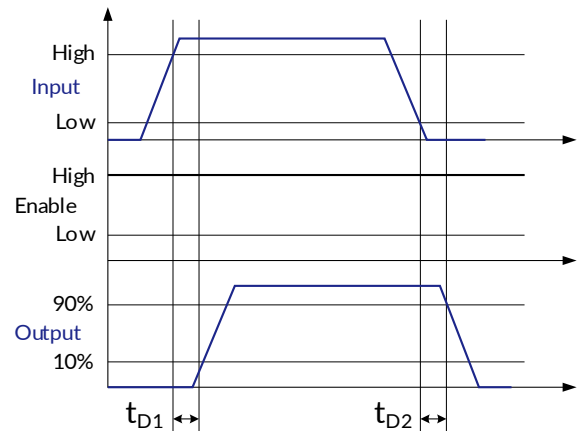

Figure 2. Non-Inverting Input-Driver Operation
(1) ENA/ENB only applies to RS8802A.
(2) See timing diagrams in Figure 1, Figure 2.
(3) This parameter is ensured by design and/or characterization and is not tested in production.